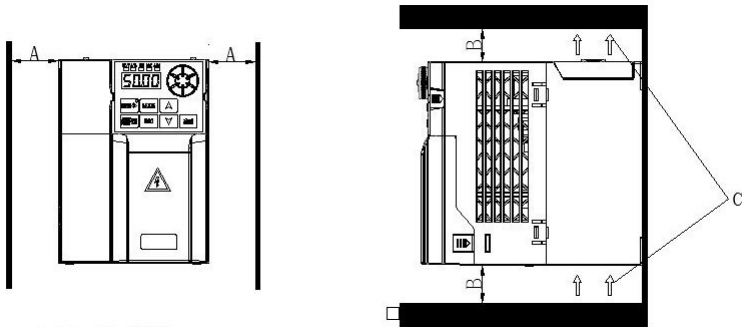

Figure 4.2 Single installation spacing requirements
- (2) When installing a single unit, the installation spacing requirements are as shown in Figure 4.2;